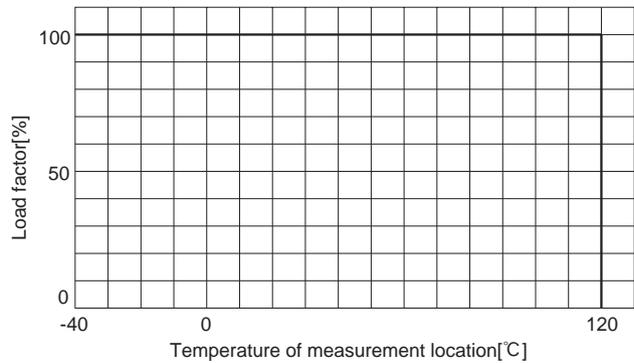
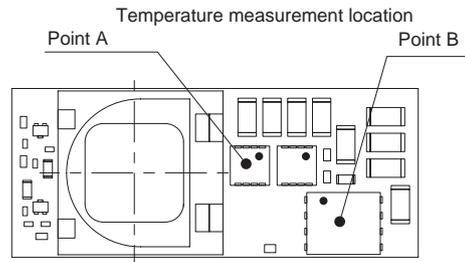
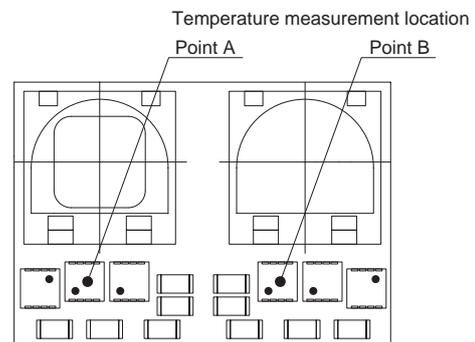

Fig.8.1 Derating curve
Fig.8.2 Temperature measurement location (BRFS30)
Fig.8.3 Temperature measurement location (BRFS50)
- Make sure the temperatures measurement locations shown from Fig.8.2 and Fig.8.3 below are on or under the derating curve in Fig.8.1.